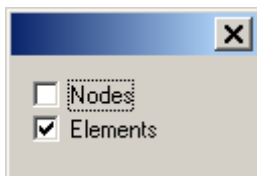

Figure 1.27.4 Dialog box to define selection option
- ⇒ In the dialog box (see Fig.1.27.4), define selection option: